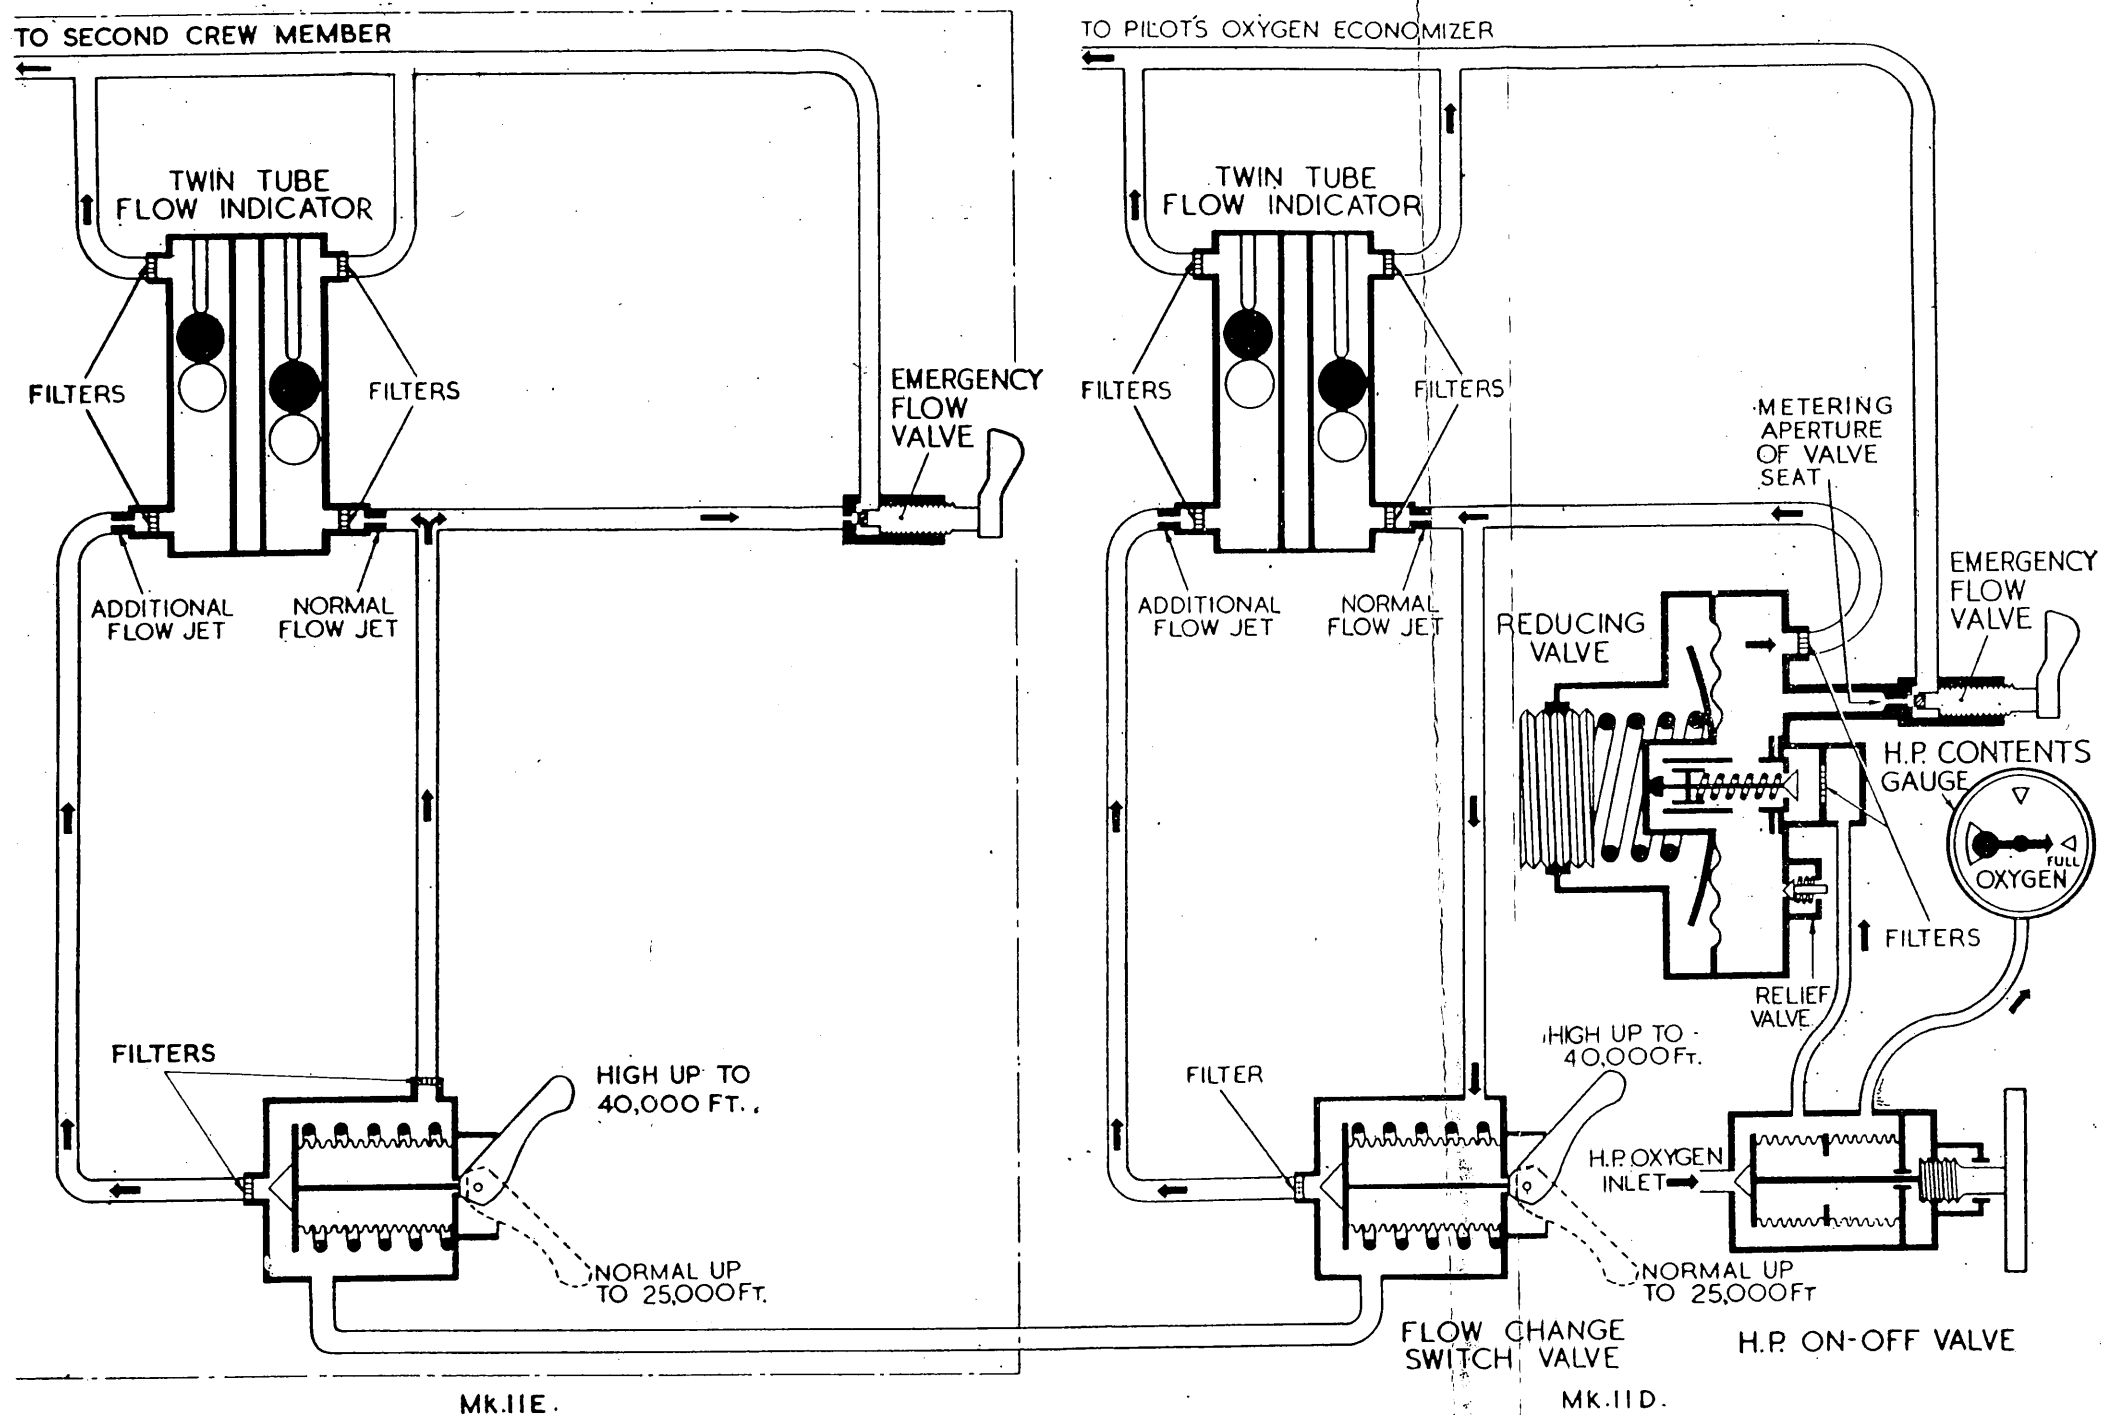

Fig.9 Diagrammatic view of Mk.IID. and Mk.IIE. Installation
**23.** The oxygen regulator, Mk. 11D (fig. 9 and 10) is for use in two-seater aircraft. It is similar to the Mk. 11C (para. 16 to 21) with the exception of a second outlet connection
which is fed directly from the reduced pressure chamber. The second outlet connection is connected by piping to the Mk. 11E regulator (*para. 26 to 29*), which is installed in the second station of the aircraft, and supplies a NORMAL, HIGH and EMERGENCY flow of oxygen to the second member of the crew. A diagrammatic illustration of the complete installation is shown in *fig. 9*. The second outlet connection of the Mk. 11D regulator is fitted with a flow jet to limit the loss of oxygen which occurs if the connecting piping between these two regulators is damaged during flight.